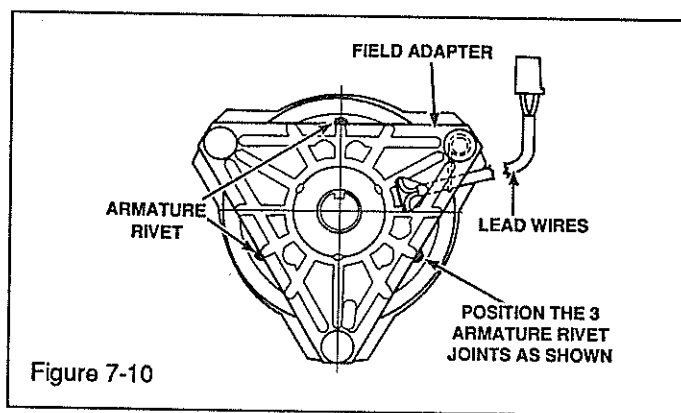

Figure 7-10
2. Place the clutch so that it may be viewed from the field adapter side. (Where the lead wires exit the clutch.) See Figure 7-10.
3. Locate 3 rivet joints (Figure 7-10) which fasten the leaf springs to the armature.